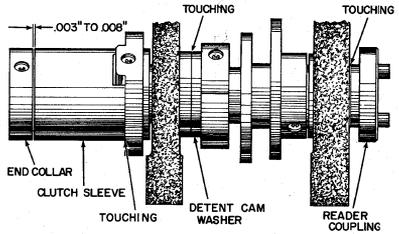

Figure 4
4. The control arm should be straight except for the 11°15' bend near the top. Form at point (B) to straighten. On a tab card reader, form both arms but only if necessary.
5. With the control armature fully attracted to the core (roller on low dwell) loosen the locking nut and adjust the set screw on the control arm so that, as the interposer bail comes down past the latching surface of the control arm, the control arm clears the latching point on the bail by .002" to .005" (Figure 4). The clearance will very likely be changed by tightening the locking nut, so the screw should be turned and the nut tightened before checking the clearance. In a tab card reader, adjust both control arms.
8. With the clutch shaft and the clutch shaft sleeve to the left as far as the parts will allow (Figure 4), and the clutch sleeve against the clutch collar, loosen the setscrews on the end collar, set it .003" to .008" from the clutch sleeve (tight against the clutch collar) and tighten the setscrews.